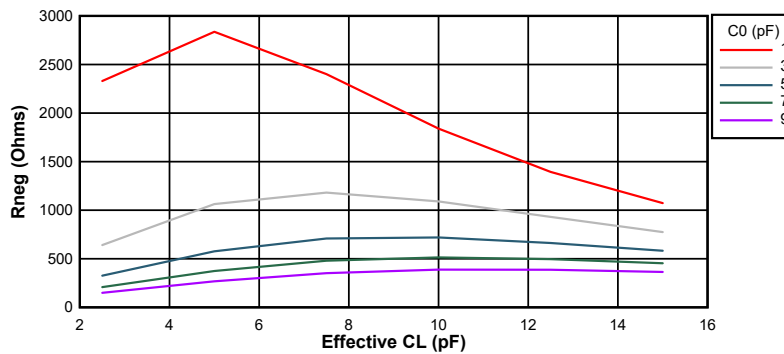
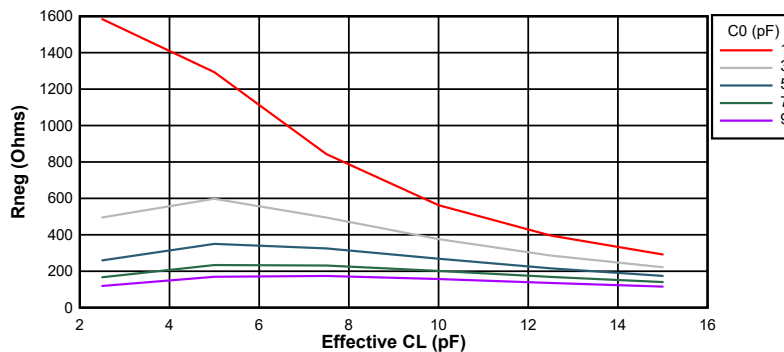

Figure 6-18. Negative Resistance Variation at 10 MHz
Figure 6-19. Negative Resistance Variation at 20 MHz
Figure 6-18 and Figure 6-19 show the variation between negative resistance and the crystal components for this device. As can be seen from the graphs, the crystal shunt capacitance (C0) and effective load capacitance (CL) greatly influence the negative resistance of the electrical oscillator. Note that these are typical graphs; so, refer to Table 6-6 for minimum and maximum values for design considerations.